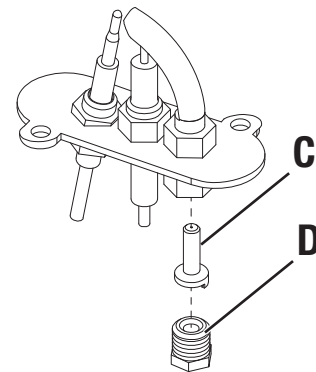

Fig.8.
3. Unscrew the nut "D"(Fig.8)
4. Remove the nozzle "C" (Fig.8) and replace it with the one for the type of gas chosen
5. Re-install the nut "D" (Fig.8)